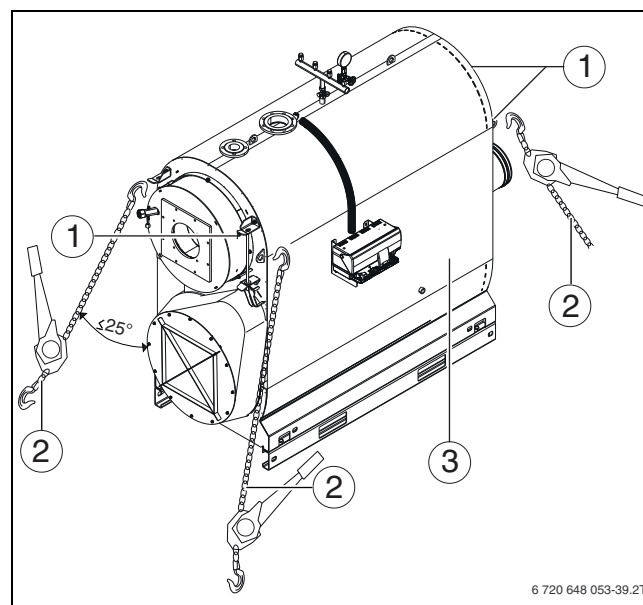

Fig. 7 Securing the load
- **Only secure retaining straps to the locking lugs [1] (Fig. 7).**